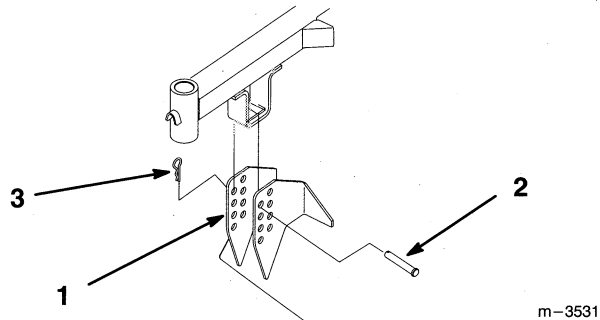

Figure 1
1. Remove hairpin cotters and clevis pins from mower hanger brackets and remove mower from carrier frame (Fig. 1).